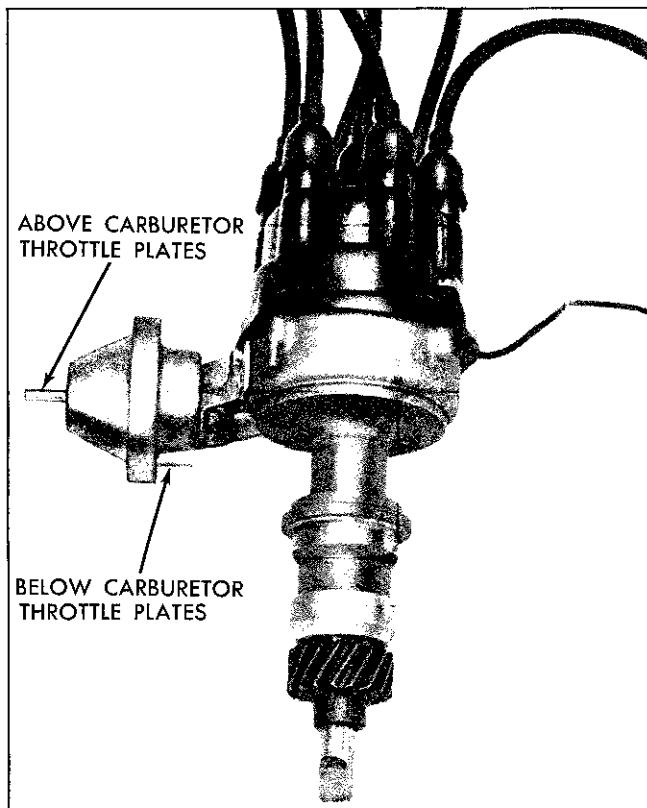

Fig. 6E-23 Positions of Vacuum Hoses - V-8 Distributor
1. Check to see that engine is at firing position for No. 1 cylinder (No. 1 piston at top of compression stroke) and timing mark on harmonic balancer is indexed with the proper mark on the lower timing belt cover (Fig. 6E-29).
3. Before installing distributor, index rotor with housing as noted when distributor was removed Fig. 6E-28. This will simplify indexing the distributor shaft and gear with oil pump drive shaft and distributor drive gear. Distributor and rotor will be positioned properly when installed with No. 1 piston in firing position.